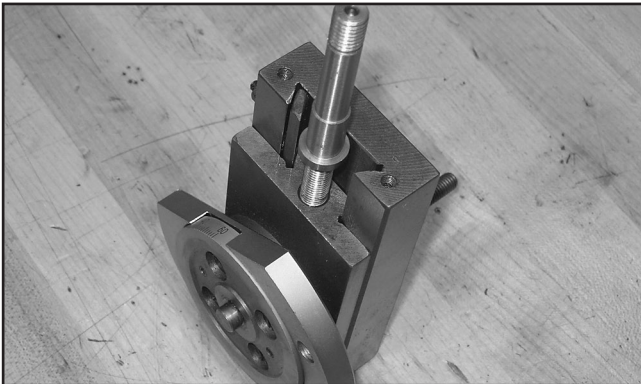

Figure 15. Sliding base and leadscrew assembled on the compound slide.
21. Coat the sliding ways of the base with way oil, then slide it into the compound slide and thread in the new short leadscrew, as shown in **Figure 15**.